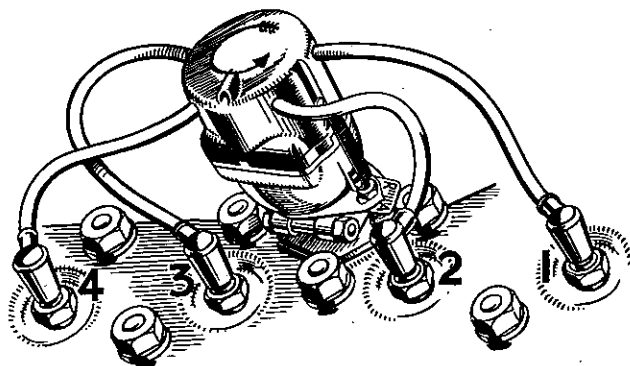

Fig. 32. Showing order for firing and ignition timing adjustment.
8. The plug leads should be connected to the sparking plugs as indicated in Fig. 32 thus following the order of firing 1-3-4-2, the Distributor having an anti-clockwise rotation, as indicated on its cover.